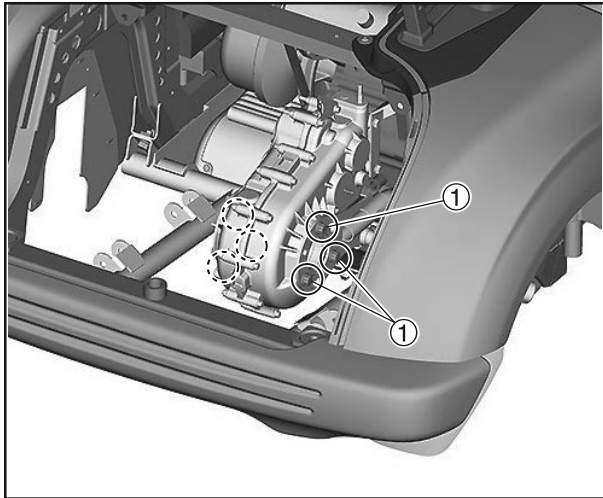

Figure 6-69
19. Remove six mounting bolts (**Figure 6-69, (1)**).